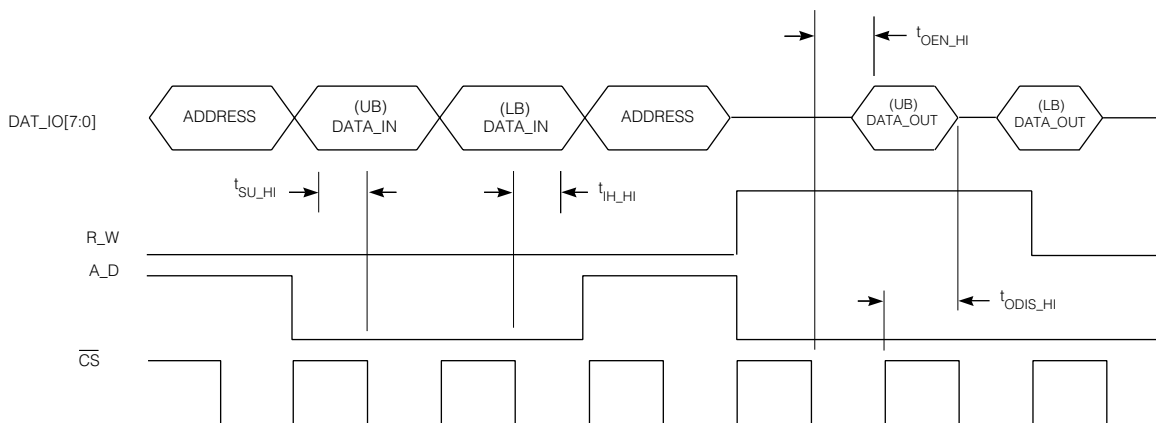

Fig. 11 Write Cycle to the Parallel Interface
A write cycle to the parallel interface is shown in Figure 11. First an 8-bit address word is provided to the DAT_IO bus by asserting the R_W pin to LOW and the A_D pin to HIGH. The MSB of the address word contains an auto-update flag, which allows automatic configuration of predefined registers. The 5 LSB's of the address word contain the address location for the read or write operation. The address word is registered on the falling edge of $\overline{CS}$. Following this, the A_D pin is driven LOW and two data words are sent upper byte (UB) word first and are each clocked in on the falling edge of $\overline{CS}$. Two 8-bit data words must follow each address word to occupy each 16-bit parameter, which are defined in Table 5.